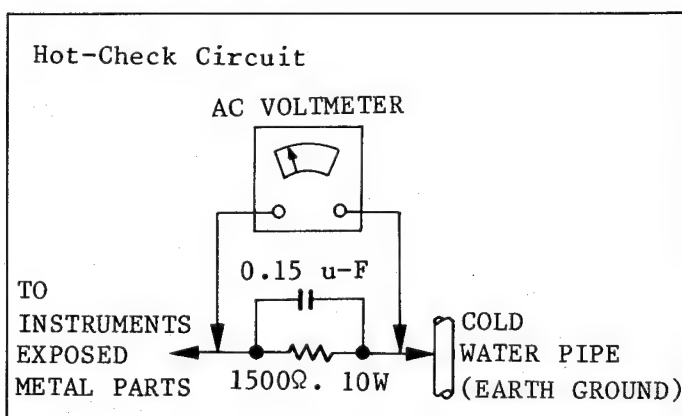

Figure 1
LEAKAGE CURRENT HOT CHECK (See figure 1.)
2. Connect a $1.5\text{k}\Omega$, 10 watts resistor, in parallel with a 0.15 u-F capacitor, between each exposed metallic part on the set and a good earth ground such as a water pipe, as shown in figure 1.